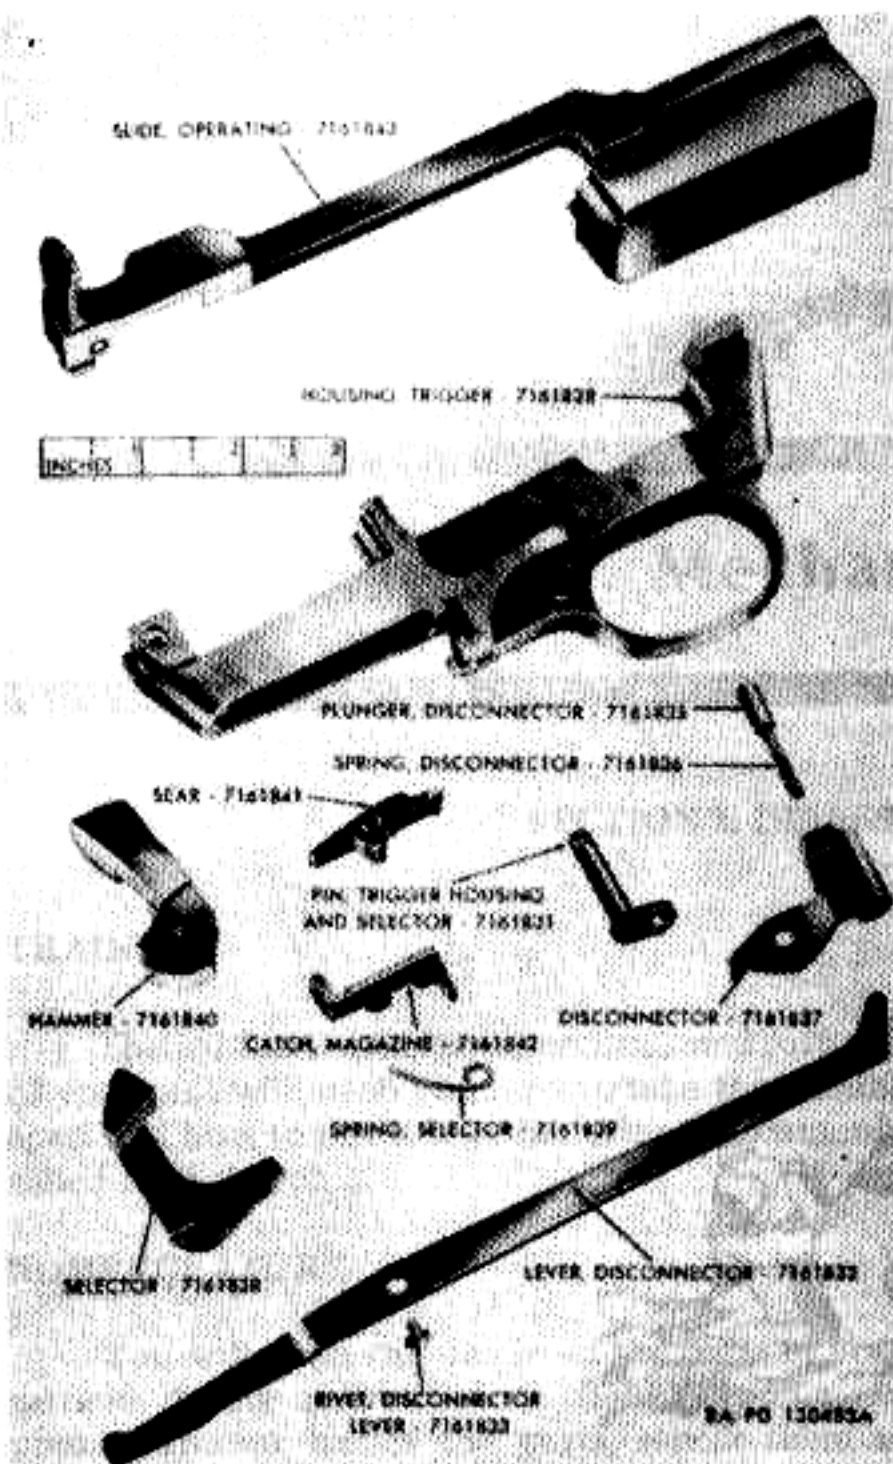

Figure 3b. Operating parts for carbines M2 and M3.
d. Component Differences Between Full Automatic and Semi-Automatic Carbines (Fig. 3b).